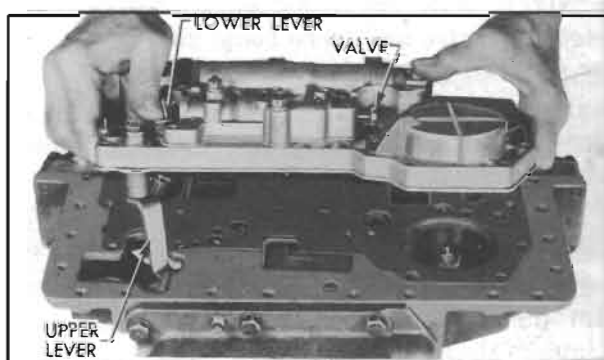

Figure 4-79—Removing Valve and Servo Body Assembly
5. Lightly pry upward on the assembly to free the gasket between servo body and transmission case. Push shift control valve and lower operating lever inward to align the lower lever with opening in transmission case, then remove the assembly. See figure 4-79. **CAUTION:** Do not grasp slotted end of control valve because sharp edges may cut hand. Remove gasket and check for indication of oil leakage.